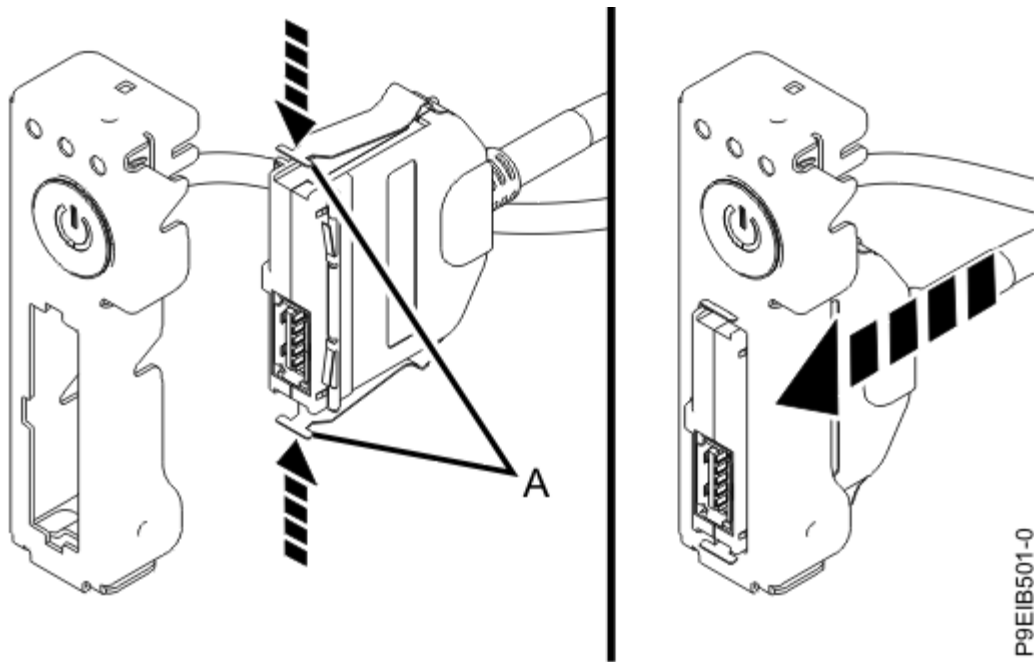

Figure 105. Attaching the USB cable and connector to the power switch
3. While you press the latches **(A)** in, connect the USB cable and connector to the power switch as shown in Figure 105 on page 125.